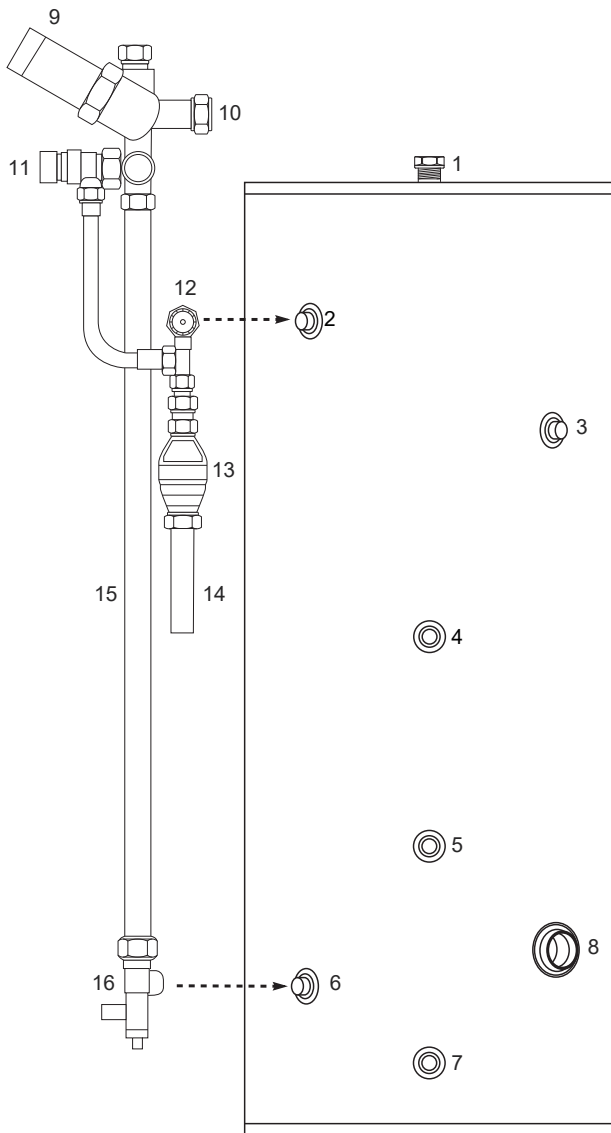

Figure 2-6: MonoWave indirect HP cylinders
1. The primary flow and return connections from the heat pump should be made to the flow and return connections of the cylinder. Refer to Figures 2-6 to 2-10, as appropriate. The motorised valve (supplied) must be fitted into the primary flow.
2. Locate the dual thermostat in the stainless steel pocket (refer to Figures 2-6 to 2-10, as appropriate, for location) and secure using the retaining screws on the thermostat housing.
The ½" drain cock (supplied in the kit) must be fitted in the cold feed to the cylinder to provide a means of draining the unit. Refer to Figures 2-6 to 2-10 (as appropriate) for a suitable drain cock position that will enable most of the cylinder to be drained off when required.